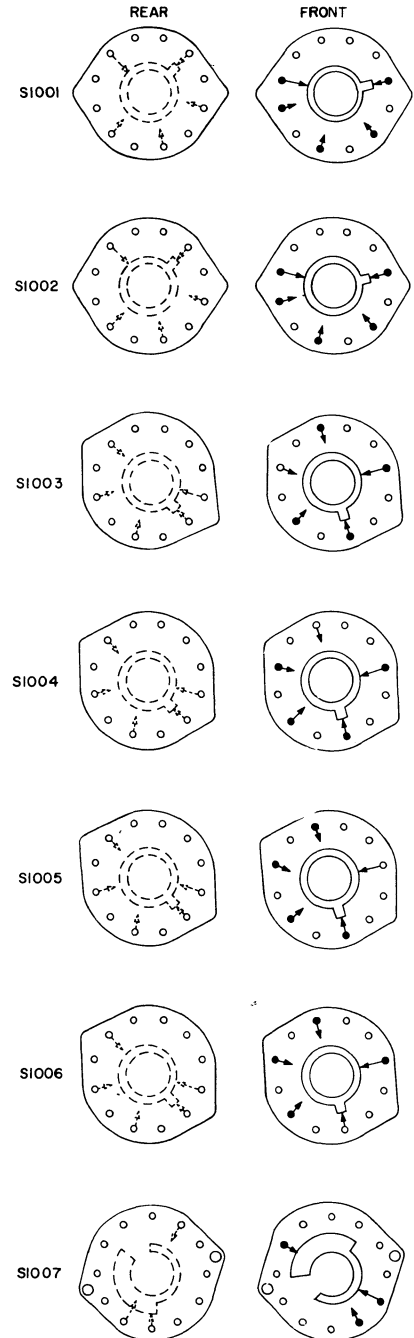

Figure 6-12. R-F Tuner, Position of Couplers and Correct Switch Alignment, Band 1
When either removing or replacing the r-f tuner unit, the equipment must be in the band one position. Refer to figure 6-12.
c. Position the couplers as indicated in figure 6-12. The tuning rack should be in its bottom position. The center line of keyway on the Oldham couplers and each test pin and its associated shaft should be in line, perpendicular ± 1 degree to the plane of the r-f tuner bottom.
d. All switch rotors should align in the positions indicated in figure 6-12.